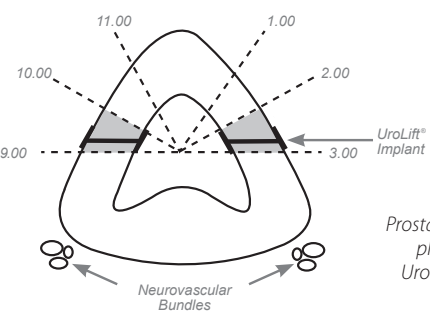

Figure 3
- 2.6 To avoid external prostatic structures (e.g. neurovascular bundle), UroLift Implants should be implanted in the anterior aspect of the prostate, in between the 2-3 and 9-10 o'clock positions (**Figure 3**).
- 2.7 Pre-determine treatment site by orienting the delivery device tip in a lateral direction, typically either 2-3 o'clock or 9-10 o'clock, (**Figure 3**) in the bladder then slowly moving the device distally to visualise the prostatic fossa from the bladder neck to the verumontanum.